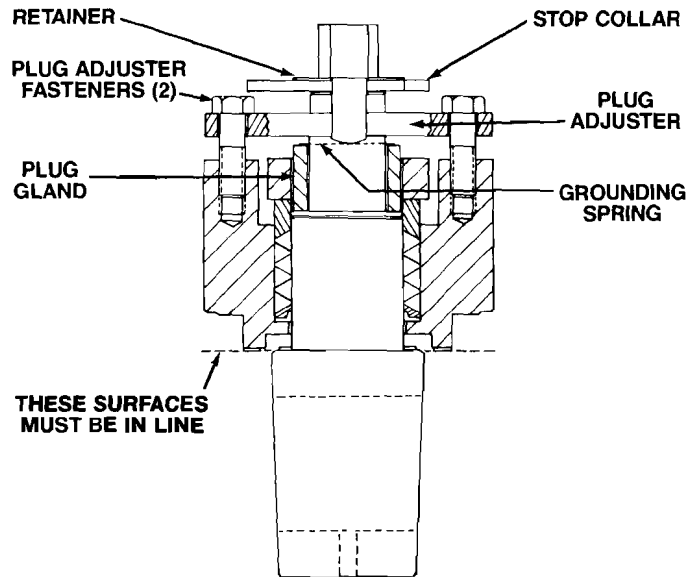

FIGURE VB-8
14. The plug gland is placed over the plug stem. Next, the grounding spring is pushed onto the plug stem. The adjuster with fasteners is placed over the plug stem and secured by the adjuster fasteners shown in Figure VB-8. The adjuster fasteners should be tightened to position the top cap gasket surface in line with the flat surface which the plug bearing rests on as shown in Figure VB-8.